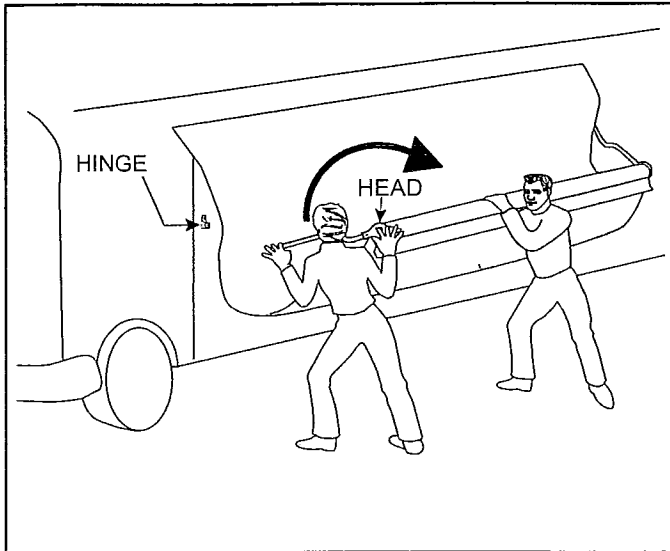

Figure 4
2. With a second person holding the awning roller away from the vehicle, (Fig. 4) Hold the left support arm securely and unbolt from the hinge. Unwind the arm counter clockwise until there is no tension on the spring.
With a second person holding the awning roller firmly away from the vehicle, (Fig. 4) unbolt the left support arm from the hinge and wind the arm clockwise **18 revolutions on slideouts with 24" spring (mfg. To 5/31/97) and 28 revolutions on awnings with 30 1/2" spring (after 6/1/97)**. Bolt the arm to the hinge. Securely tighten all nuts and bolts.